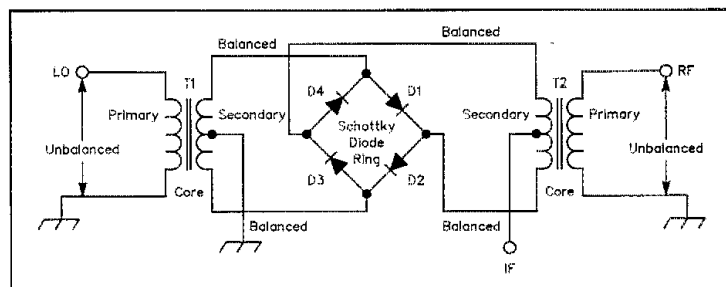

Fig 1—A diode double-balanced mixer consists of two unbalanced-to-balanced transformers and a Schottky-diode ring.
A diode double-balanced mixer (Fig 1) contains two or more unbalanced-to-balanced transformers and a diode ring consisting of  $4 \times n$  diodes, where  $n$  is the number of diodes in each leg of the ring. Each leg commonly consists of up to four diodes. Input and output ports—commonly named local oscillator (LO), radio frequency (RF) or signal, and intermediate frequency (IF)—connect the DBM to its associated circuitry.
See Fig 1. Applied to the diode ring's D4-D1 and D2-D3 terminals via T1, a 1:4
balanced mixer suppresses neither its RF nor its LO; both are present at its IF port. A *single-balanced* mixer suppresses its RF or LO, but not both. A *double-balanced* mixer suppresses its RF and LO inputs. Diode and transformer uniformity in the Fig 1 circuit results in equal LO potentials at the center taps of T1 and T2. The LO potential at T1's secondary is zero (ground); therefore, the LO potential at the IF port is zero.
The Fig 1 circuit normally also affords high RF-LO isolation because its diode
From the DBM schematic shown in Fig 1, it is clear that the LO and RF transformers are unbalanced on the input side and balanced on the diode side. The diode ends of the balanced ports are 180° out of phase throughout the frequency range of interest. This property causes signal cancellations that result in higher port-to-port isolation. Fig 5 plots LO-RF and LO-IF isolation versus frequency for Synergy Microwave's CLP-4A3 DBM. Isolations on the order of 70 dB occur at the lower end of the band as a direct result of the balance among the four diode-ring legs and the RF phasing of the balanced ports.